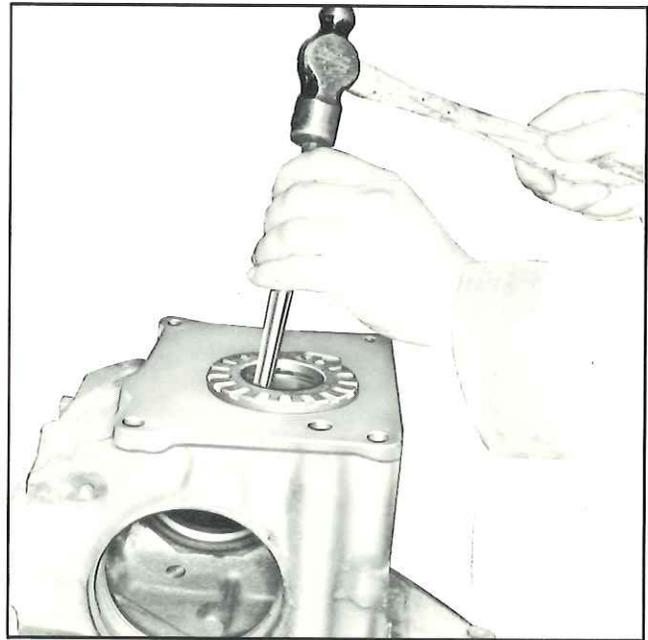

Fig. 5—Adjusting Sleeve Bearing Race Removal
race with a punch or other suitable tool (Fig. 5). On automatic transmission models it is necessary to remove the seal.
1. Thread side bearing adjusting sleeve and race assembly into carrier until finger tight and drive out the old race with a punch or other suitable tool (See Fig. 5).